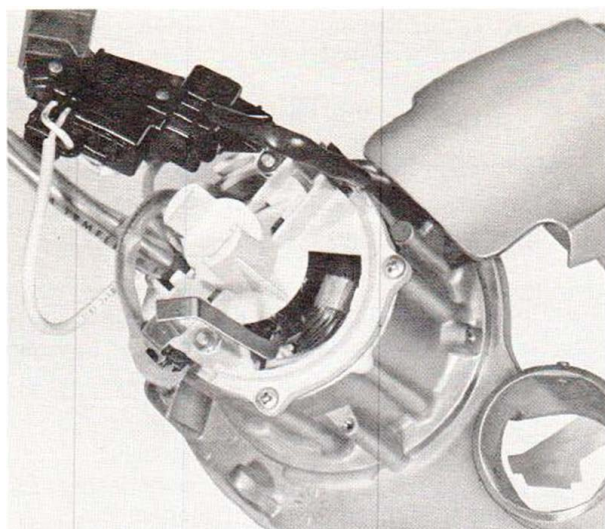

Figure 1-14. Fan locking tool inserted through motor bell housing
(1) Insert the fan locking tool through lower opening in motor bell housing (7, fig. 1-1) as illustrated in figure 1-14. Lower part of tool
(1) Insert the fan locking tool (T130) (see figure 1-13) through the lower window in the motor bell housing as shown in figures 1-14 and 1-15, so that the tool slides into one of the armature laminations and the protruding part of the tool bears against the internal shoulder of the field lamination.